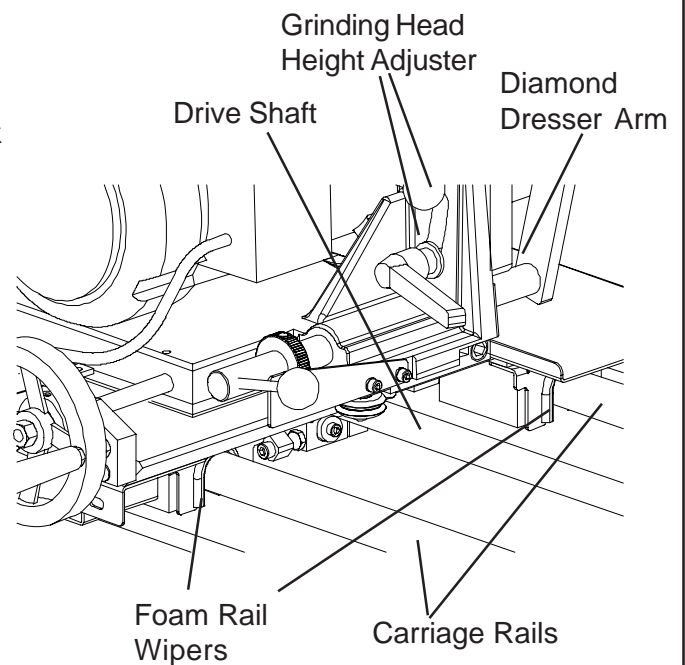

FIG. 15
3. Replace the four foam rail wipers (FIG. 15) every 6 months of operation. Note: Wipers are removed if optional bellows are installed.